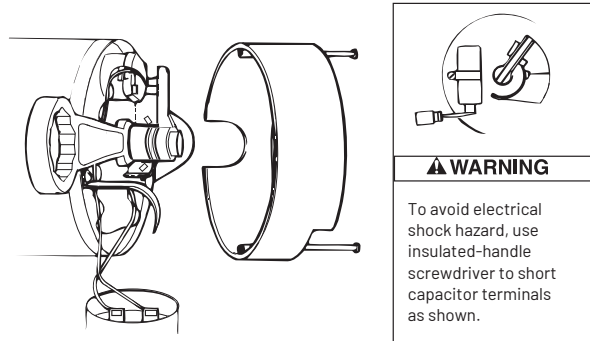

FIGURE 13 – HOLD SHAFT
4. If impeller must be replaced, loosen two machine screws and remove motor canopy (Figure 13).
5. **WARNING** CAPACITOR VOLTAGE MAY BE HAZARDOUS. To discharge capacitor, hold insulated handle screwdriver **BY THE HANDLE** and short capacitor terminals together (Figure 13). Do not touch metal screwdriver blade or capacitor terminals. If in doubt, consult a qualified electrician.